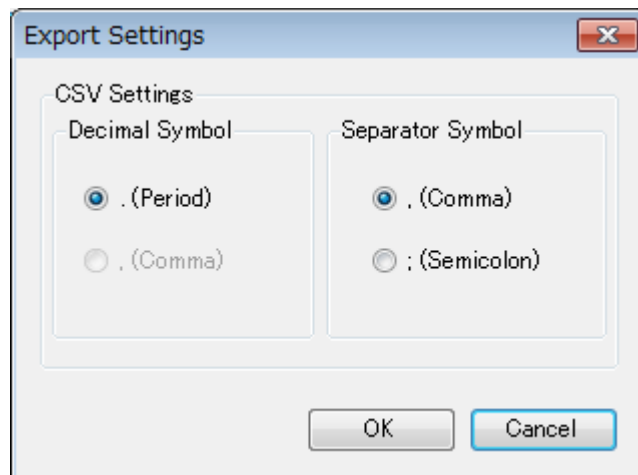

Fig 3-6. Export Settings
- (1) Select [Settings]-[Export] of menu bar.
- (2) [Export Settings] screen will appear. (Fig 3-6)